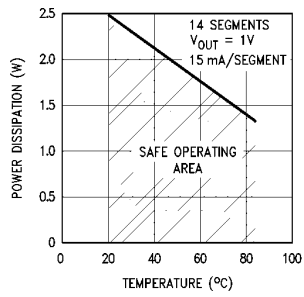
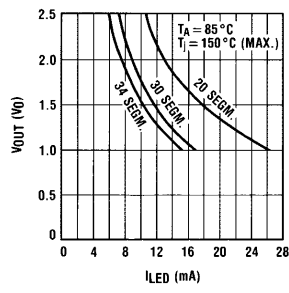

FIGURE 6
FIGURE 7
**Note 4:** The  $V_{OUT}$  voltage should be regulated by the user. See Figures 6 and 7 for allowable  $V_{OUT}$  vs  $I_{OUT}$  operation.
The above equation was used to plot *Figure 6*, *Figure 7*, and *Figure 8*.